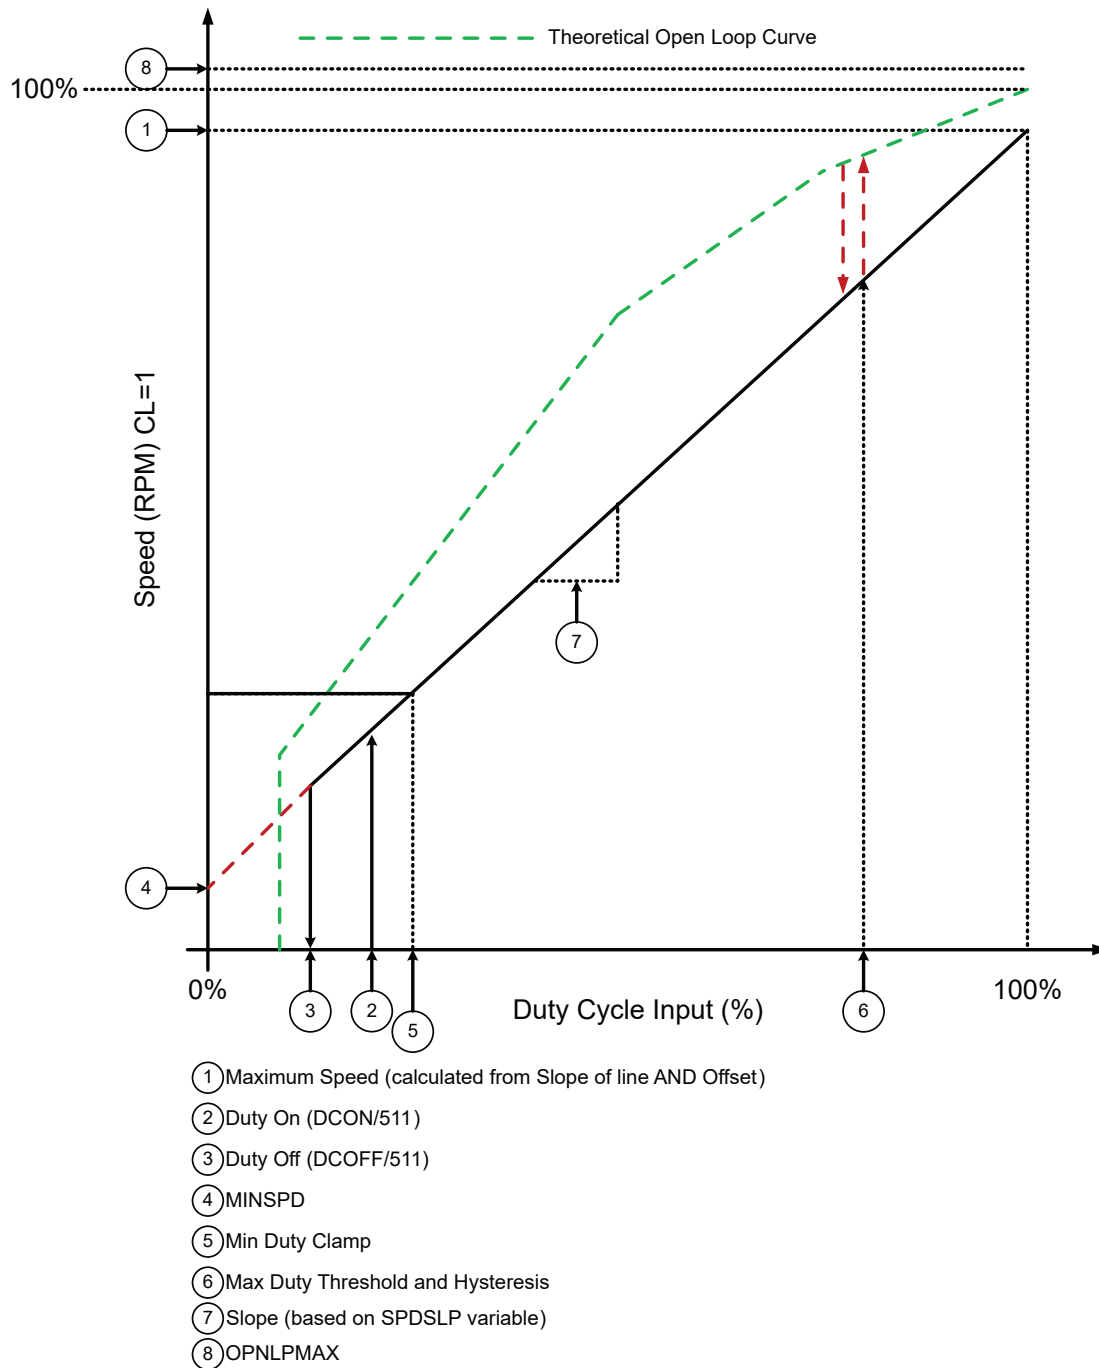
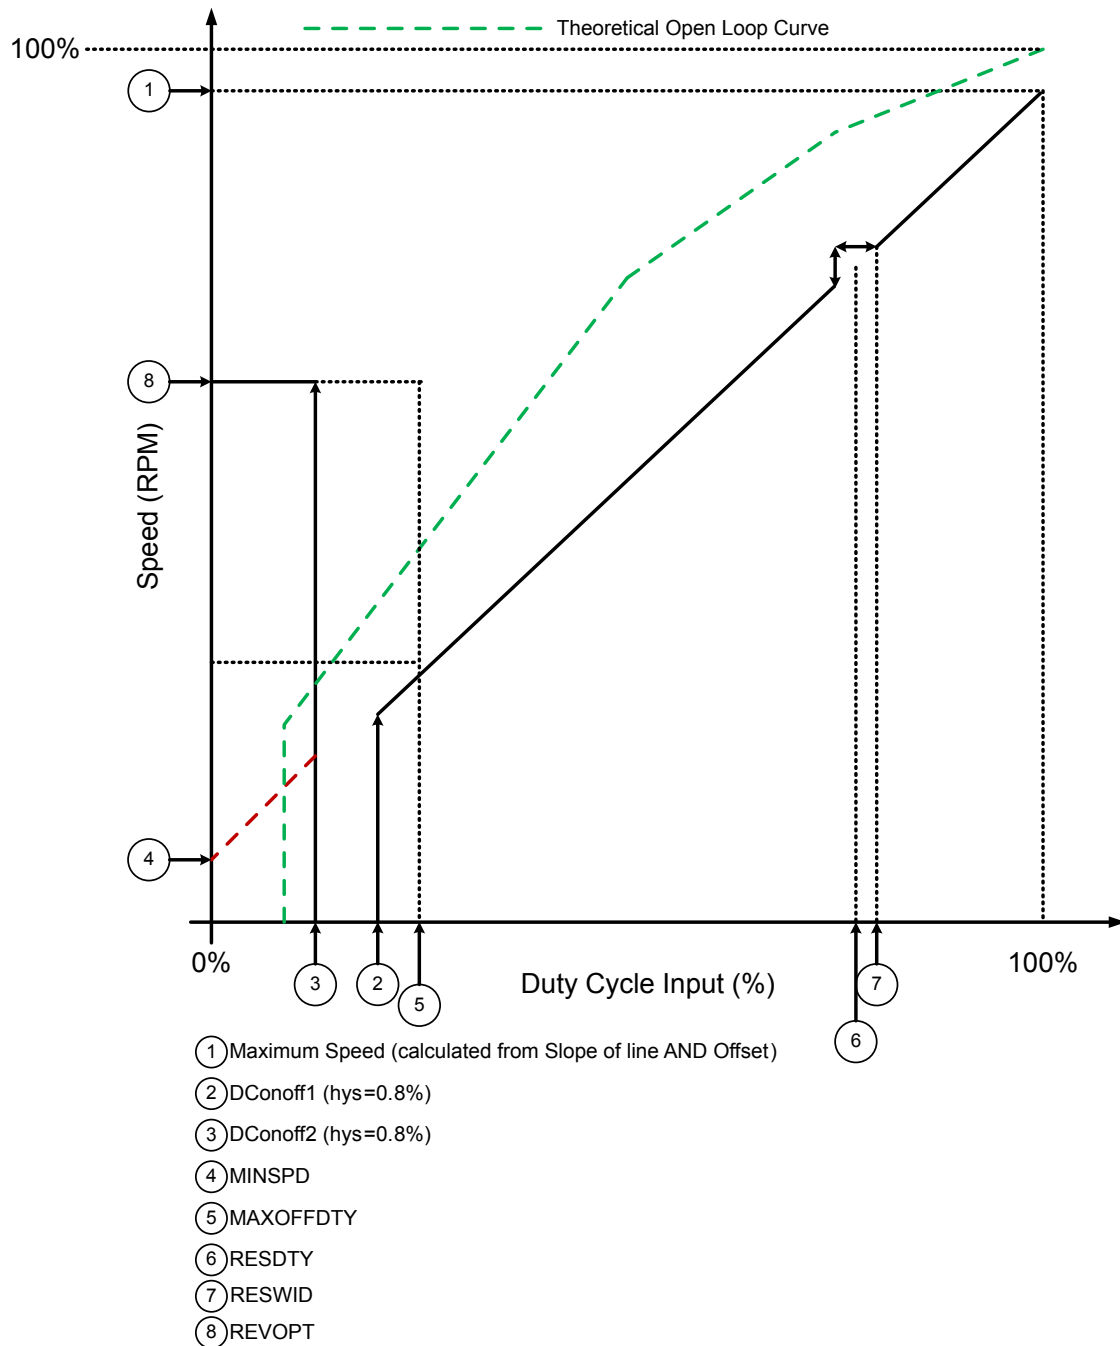
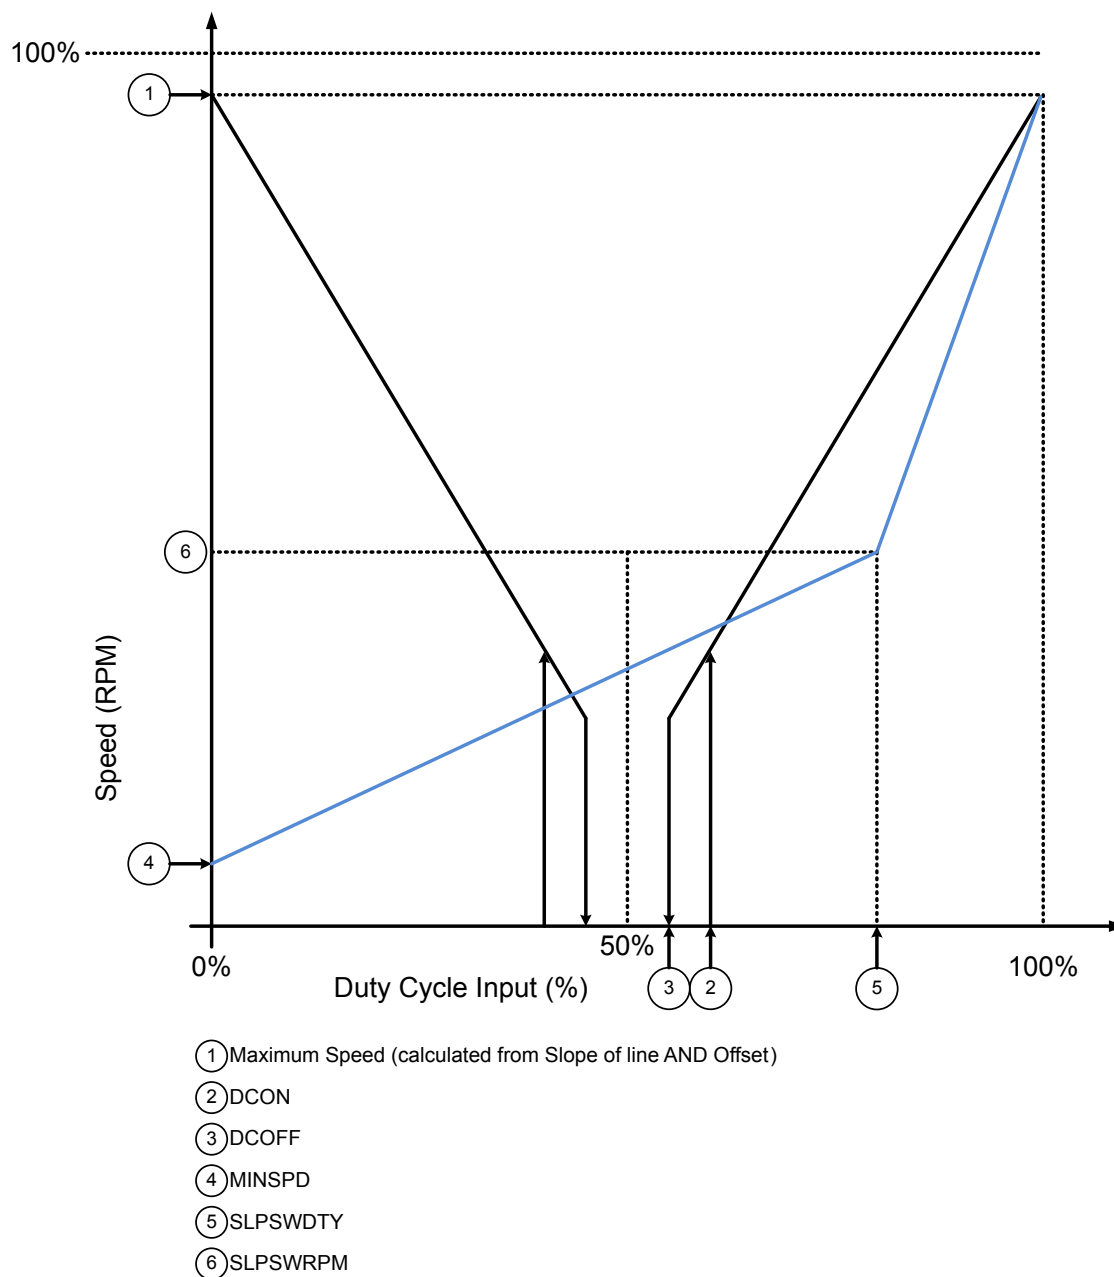

Figure 3: Speed Curve Options
Figure 4: Speed Curve Options – 2
Figure 5: Speed Curve Options – 3
Refer to Figure 3, Figure 4, and Figure 5 for items below.
**ON/Off Control Option.** If ONOFFCNTRL bit is set to “1”, then the motor will run if duty is between the values set by DCON and DCOFF. A fixed value of 0.8% hysteresis is applied. In this option, if the duty is below DCOFF, then the motor will be enabled with a PWM level set by variable MAXDTYOFF (see Figure 4).
**50% Duty Option.** If bit DIR50 is set to 1, the motor direction can be controlled by duty cycle level (see Figure 5).
**Resonance Option** (see Figure 5). To avoid any issues with mechanical resonance at a particular speed band, variable RESWID and RESDTY are provided to allow skipping over a defined RPM.